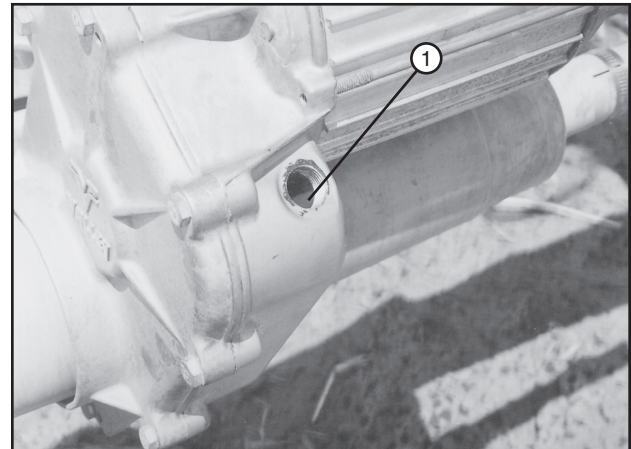

Figure 69-2 1. Bottom of Fill Plug Hole
2. Fill the gearbox 1-7/8 in (48 mm) from the bottom of fill plug hole with Valley Gear Lube. The capacity of the gearbox is approximately 44 oz (1.3 liter). See figure 69-2.